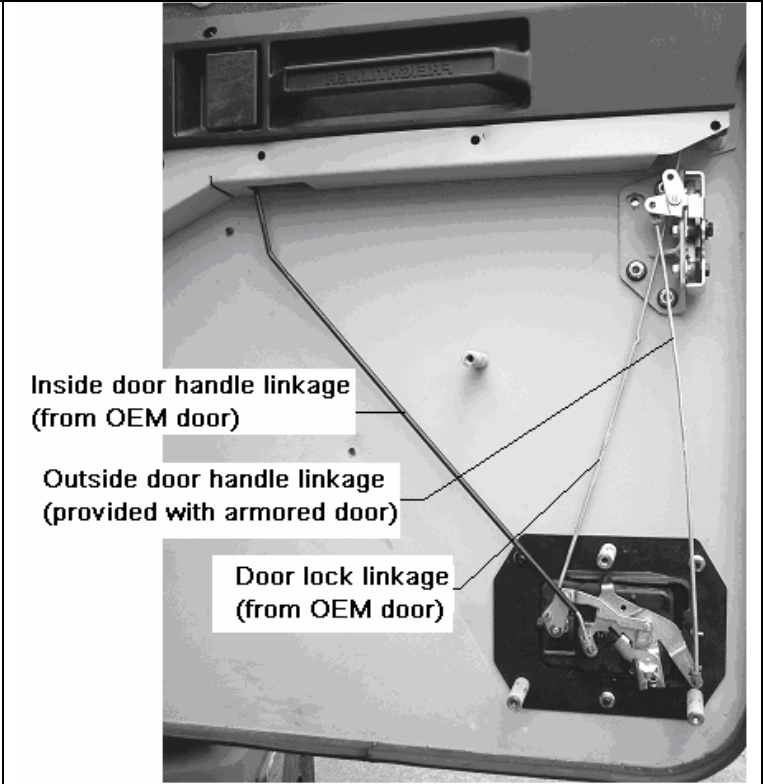

Figure 5-100. RH Door Accessories Assembly (4 of 6).
6. Connect linkages as illustrated in Figure 5-100. Operate the internal and external handles as well as the lock button to ensure that all items function correctly. Close the door to verify proper operation of the latch mechanism. Adjust the position of the latch and the striker post as necessary.